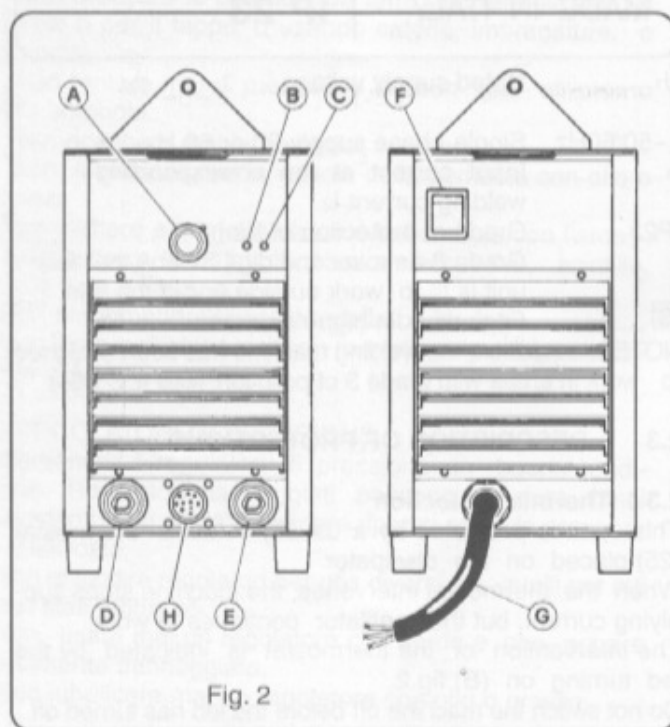

Fig. 2
The intervention of the thermostat is indicated by the led turning on (B) fig.2.
- Make sure that switch (F) fig. 2 is in 0 position or not inserted in supply socket then connect welding cables in accordance with polarity demanded by the electrode manufacturer which you will be using.
- Connect supply cable (G) fig.2: When mounting a plug, make sure that its capacity is adequate and that the yellow-green wire of the mains cable is connected to the earth plug pin.
- Turn machine on with switch (F) fig.2.
• Connect supply cable (G) fig.2: When mounting a plug, make sure that its capacity is adequate and that the yellow-green wire of the mains cable is connected to the earth plug pin.
• Turn machine on with switch (F) fig.2